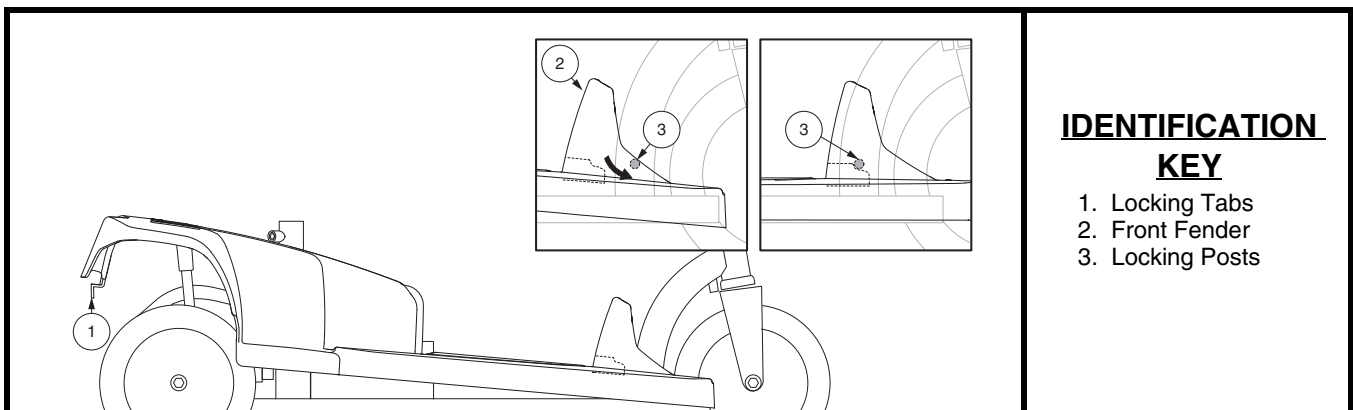

Figure 8. Scooter Body Shroud
3. Remove the scooter body shroud. See figures 8 and 9.
- Angle the front of the scooter shroud down and push slightly forward to fit the front fender under the locking posts on the frame. See **figure 8**.
10. Reinstall the seat and seat stabilizing knob. See **figures 8 and 9**.